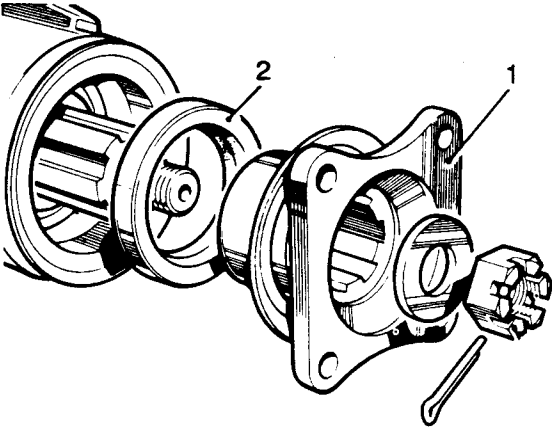

Fig J2.18
- (3) Refer to Fig J2.18. Remove the pinion driving flange (1).
- (4) Prise out the oil seal (2).